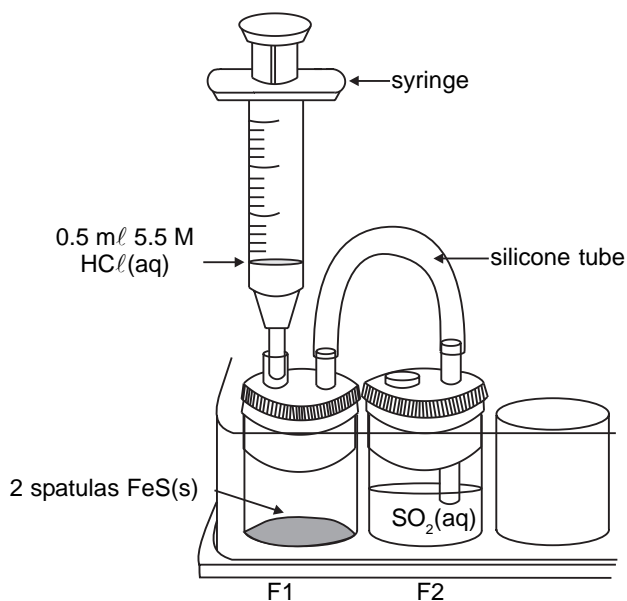

Figure 2
12. Connect wells F1 and F2 as shown in Figure 2.